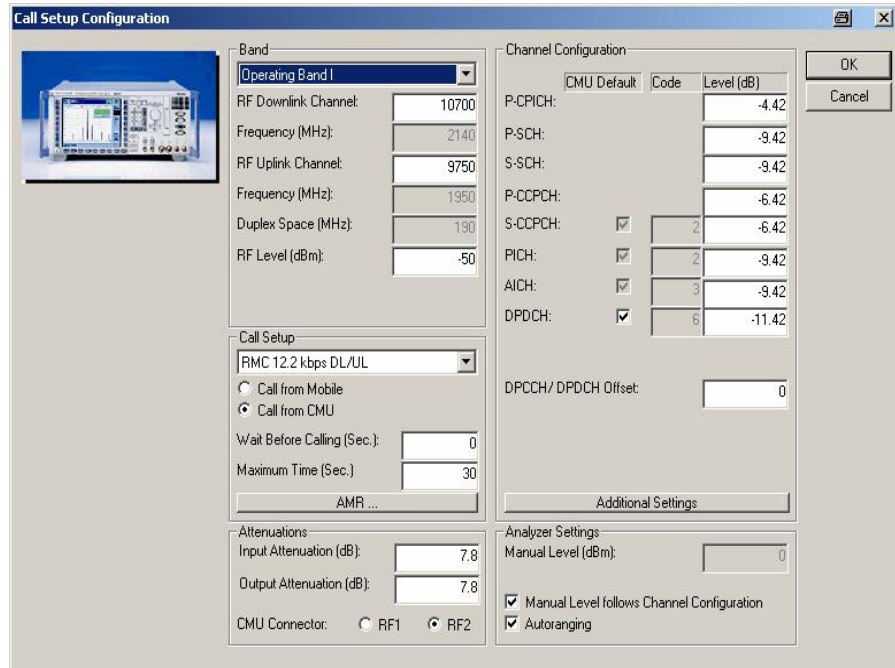

Fig. 6.5_10: Call setup configuration
- 5) Enter the path loss you measured between UE and CMU200 as *Input Attenuation* and *Output Attenuation* (lower left in Fig. 6.5_10).